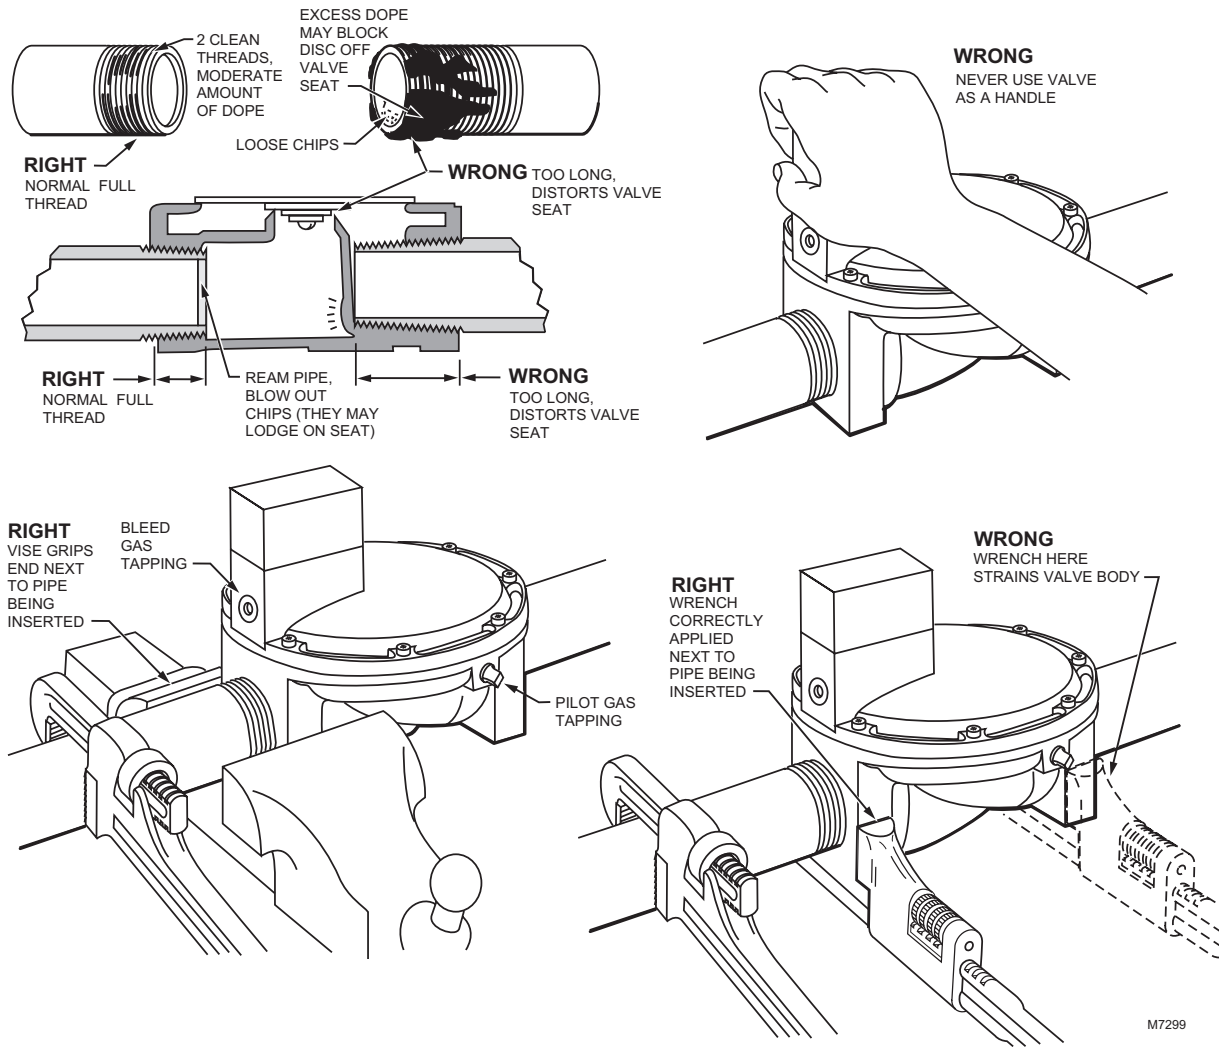

Fig. 3. Preparing piping and installing valve.
**Prepare Piping and Install Valve (Fig. 3)**
3. Apply good quality pipe dope, putting a moderate amount on the male threads only. If pipe dope lodges on the valve seat, it will prevent proper closure. If using liquefied petroleum (LP) gas, use pipe dope resistant to action of LP gas.
5. If required, connect the tubing to bleed gas tapping (Fig. 3 and 4) as described in step 3. Connect other end of bleed tubing to main burner or to outside atmosphere.